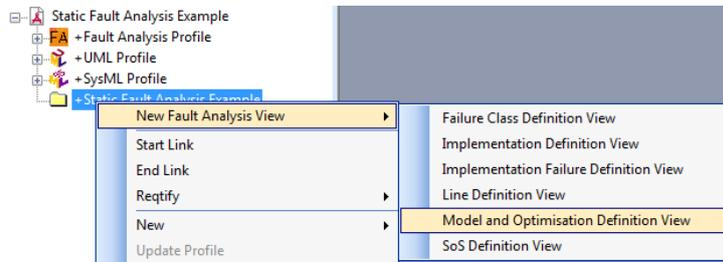

Figure 3: Creating a new *Model and Optimisation Definition View*
1. Right click on the package you created for the *Fault Analysis Model* in Section 2.2 and select “New Fault Analysis View” → “Model and Optimisation View” as shown in Figure 3